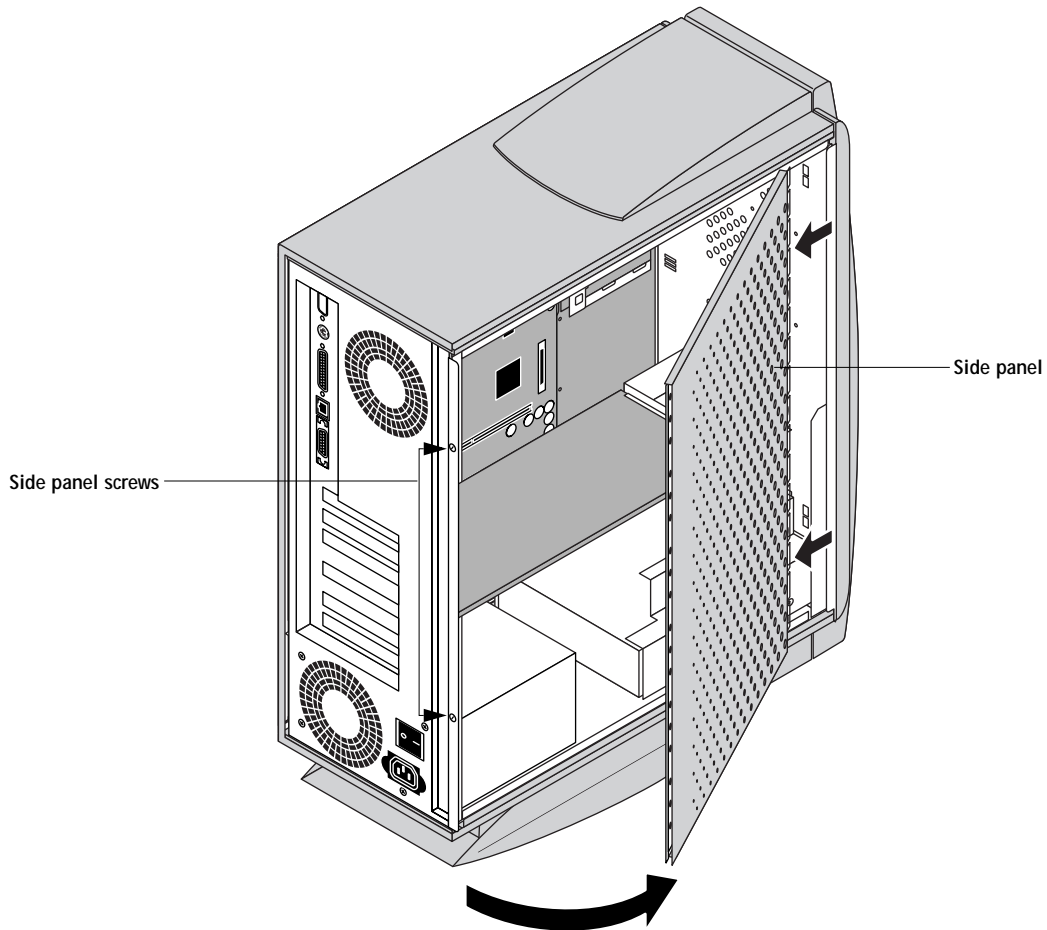

FIGURE 4-2 Removing the Fiery ZX side panel
3. Lift off the side panel (see Figure 4-2 on page 4-4).